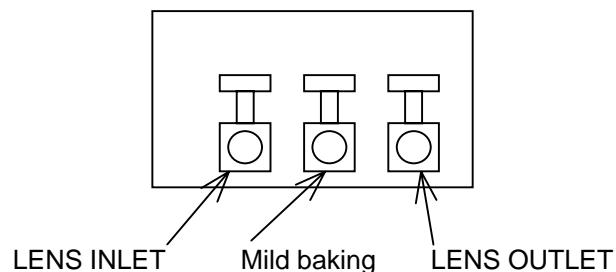

Fig. 4-19 Water Cooling Valves (main unit rear)
- (1) Click **Maintenance - Column baking** on the menu bar to call out the related window.
- (2) Change the cooling water path as in steps (a),(b) below to form the path for baking. The valves shown in Fig. 4-19 are provided on the rear of the main unit.